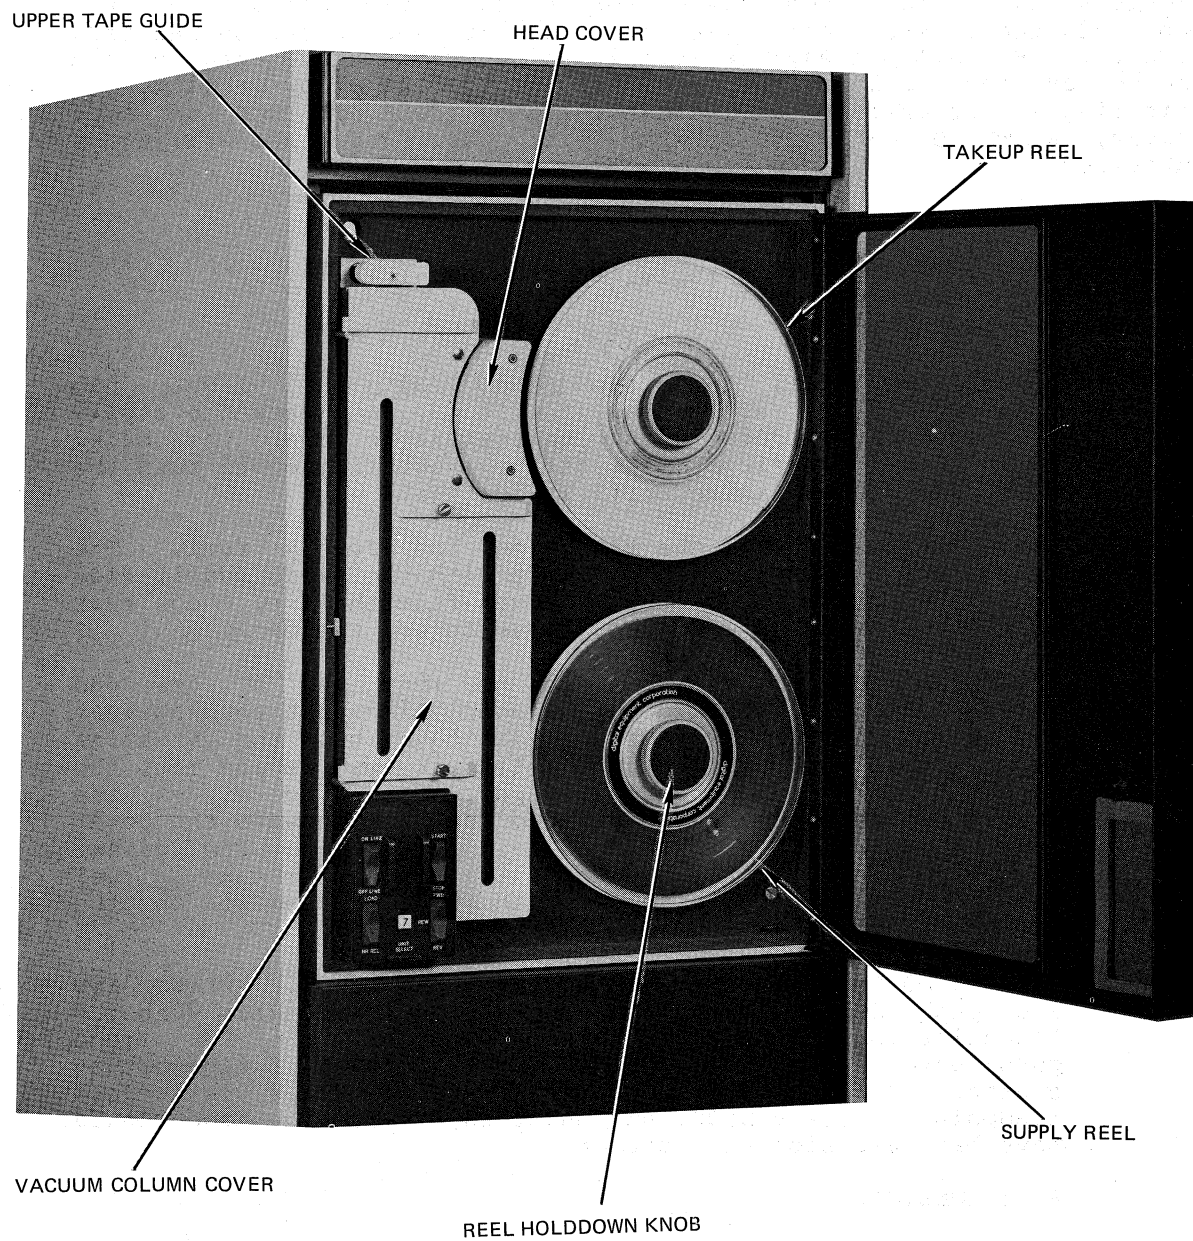

Figure 7-10 TU16 Magnetic Tape Drive
7.4.1.1 TU10 and TU16 Drives (Refer to Figure 7-10)